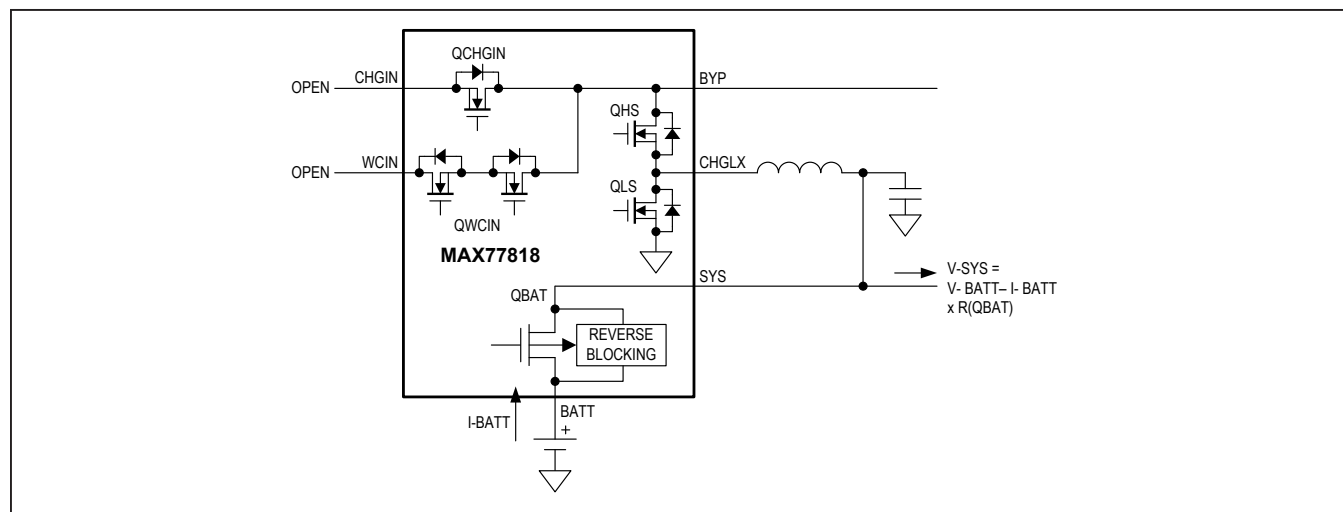

Figure 10. Battery-Only
**Battery Only, MODE = 0x00:** Adapter and wireless charger are invalid, outside the input voltage operating range (QCHGIN = off, QWCIN = off). Battery is connected to power the SYS load (QBAT = on), and boost is ready to power OTG (Boost=standby), see Figure 10. Battery Only.